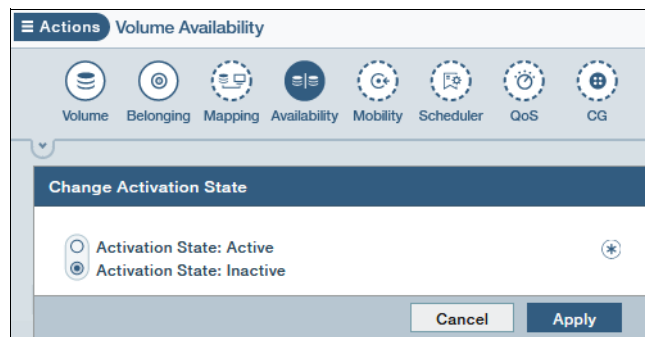
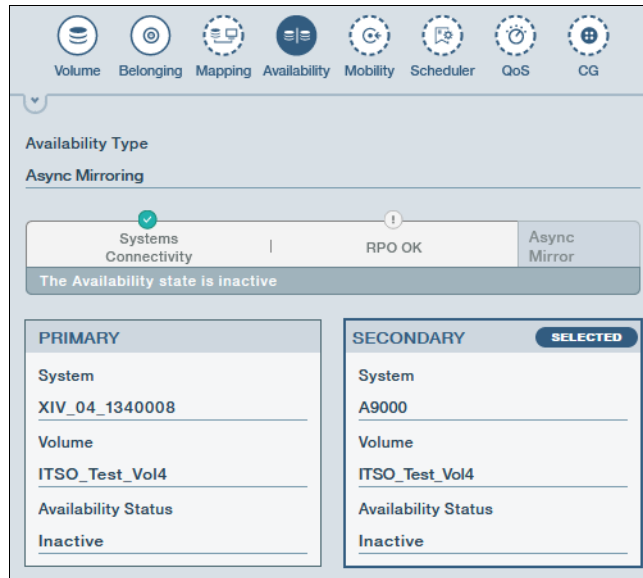
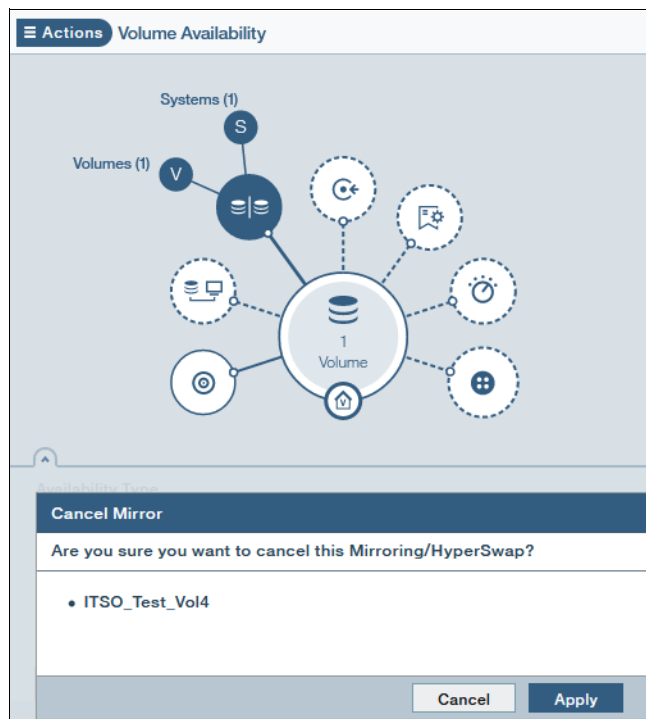

Figure 4-44 Volume Change Activation State
Figure 4-45 Confirmation of mirror set to Inactive.
Figure 4-46 Cancel Mirror window
Steps to deactivate and delete the mirror volume or CG are shown by using the XCLI in Example 4-22, and by using HSM in Figure 4-44, Figure 4-45 on page 109, and Figure 4-46 on page 109.
1. Select your volume or CG and go to the Actions Menu and select **Mirror > Change Mirror Activation** where you can select **Activation State: Inactive** as shown in Figure 4-44 to change the mirror state.
2. Click **Apply** and you see the confirmation page showing the mirror state as Inactive, as shown in Figure 4-45 on page 109.
- Now you can delete the volume or CG mirror from the Actions Menu **Mirror** → **Cancel Mirror** and confirm by selecting **Apply**, as shown in Figure 4-46.